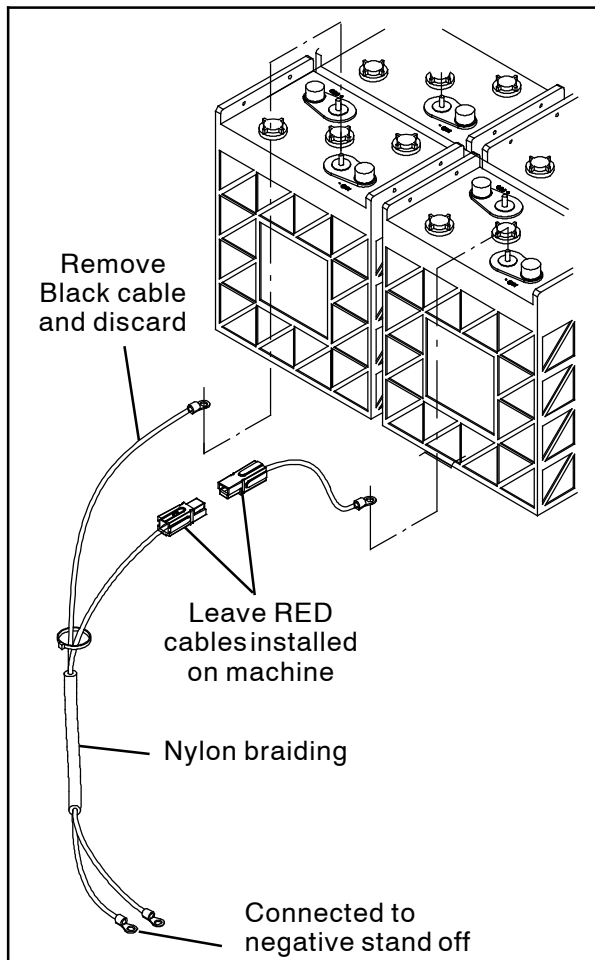

Fig. 23
18. Disconnect the existing cable from the battery negative terminal and machine negative stand off. Set hardware and rubber terminal boot aside. Pull the disconnected cable out from the nylon braiding and discard the removed cable. (Fig. 23)